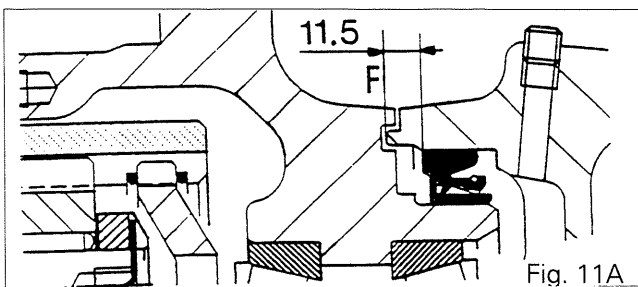

Fig. 11A
- AG 155: 11.5 mm from face F (Fig. 11A)